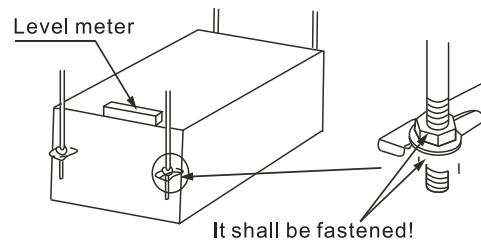

Figure 3.9
- 3) Confirm the levelness of the main body by the level meter (strictly prohibit the declination toward the non-drain side. It had better decline toward the drain side). Refer to Figure 3.9.